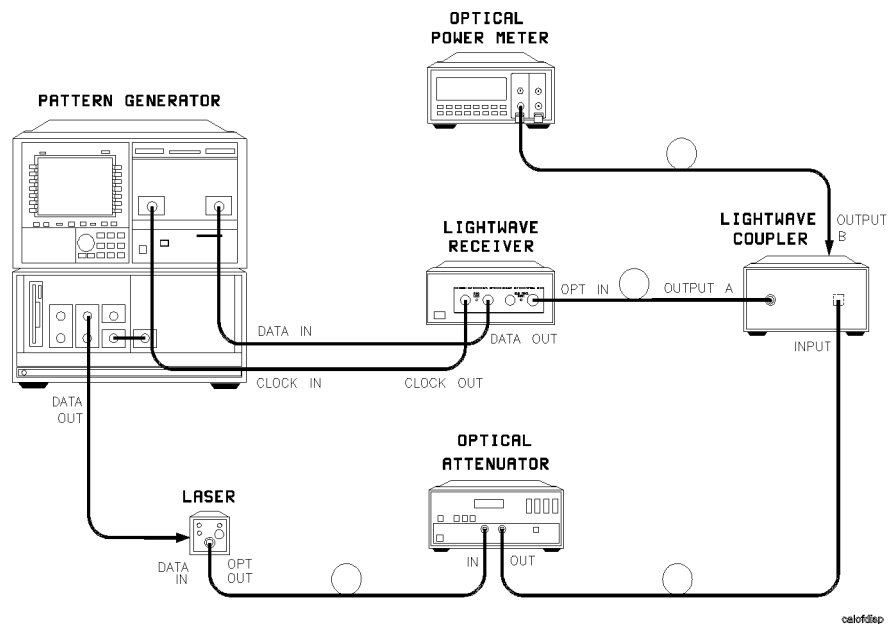

Figure 3-1. Setup for calibration of dispersion power penalty test system.
1. Connect the equipment as shown in Figure 3-1. Set the optical attenuator so the input power to the clock/data receiver is approximately -20 dBm. Confirm the **SYNC LOSS** LED on the clock/data receiver is extinguished and the BERT reads a bit error ratio of zero. If necessary, perform automatic **CLOCK/DATA** alignment on the BERT to achieve minimum error ratio. Allow all equipment to warm up at least 30 minutes.